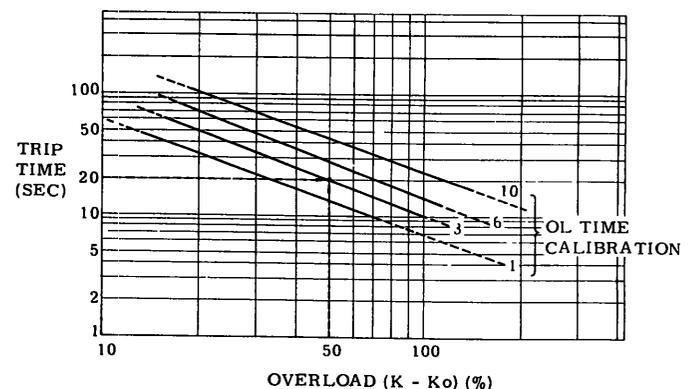

Fig. 13 Overload-trip Time Characteristics
- OL TIME Shortening by CCW turn, lengthening by CW turn. For operation characteristics, refer to Fig. 13.
In Fig 13, for an overload of 50% and a trip delay time of 20 sec, OL TIME scale reading of "3" is given (rough setting)